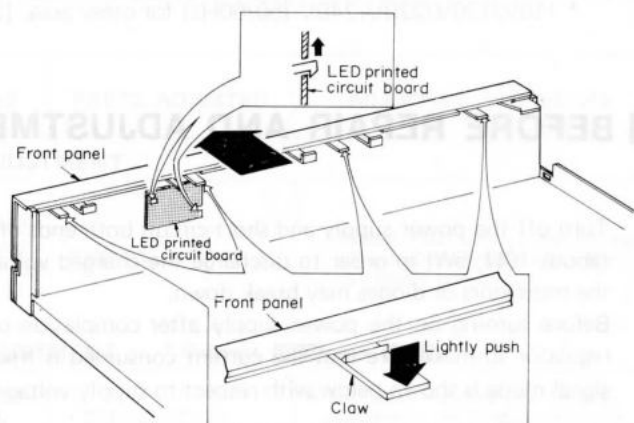

Fig. 3
3. The claws projected (at 4 portions) from the front panel are engaged with the front sub-panel. Disengage the claws from by screwdriver or the like to remove the front sub-panel. (See Fig. 3)